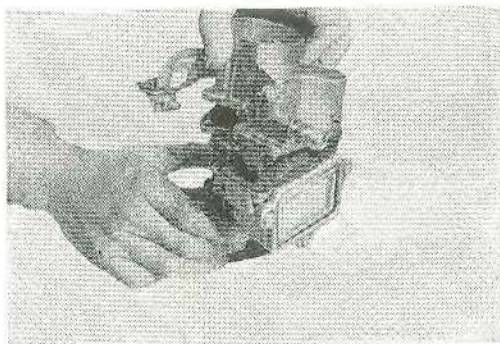

Figure 144
(19) Assemble on air horn (Fig. 144).